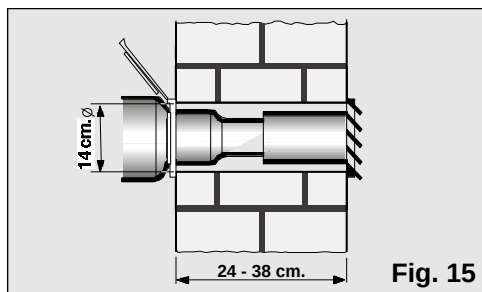

Fig. 15
- ☐ To expel hot air through the wall, it is necessary to make an 14-cm diameter hole in the wall and fit the wall grommet, **Fig. 15**.